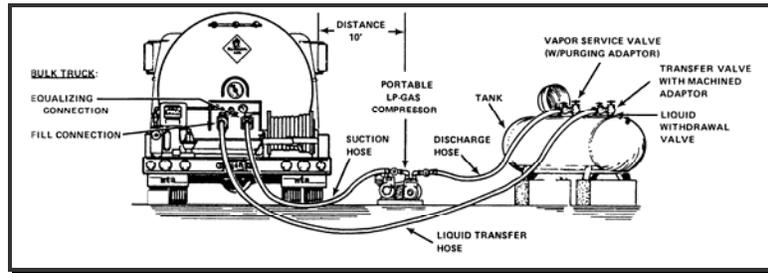

Figure 5.1.8i
- Connect the suction hose between the suction side of the compressor and the equalizing connection on the cargo tank of the delivery vehicle (see Figure 5.1.8i).